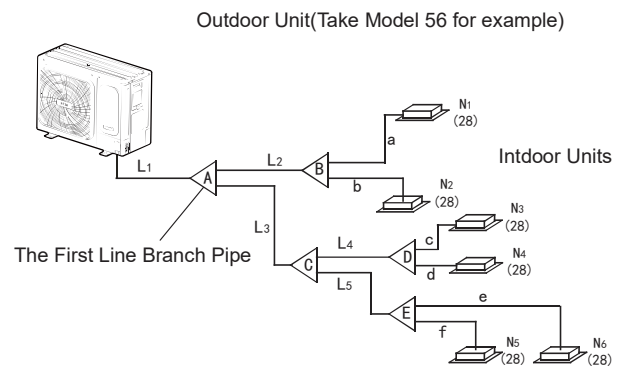

Fig. 4-5
- 2) Example 1: In the Fig.4-5, The downstream inner units of the L2, and its total capacity is $28 \times 2 = 56$. refers to the Table 4.4, the gas/liquid side of L2 is: $\Phi 15.9/\Phi 9.5$.